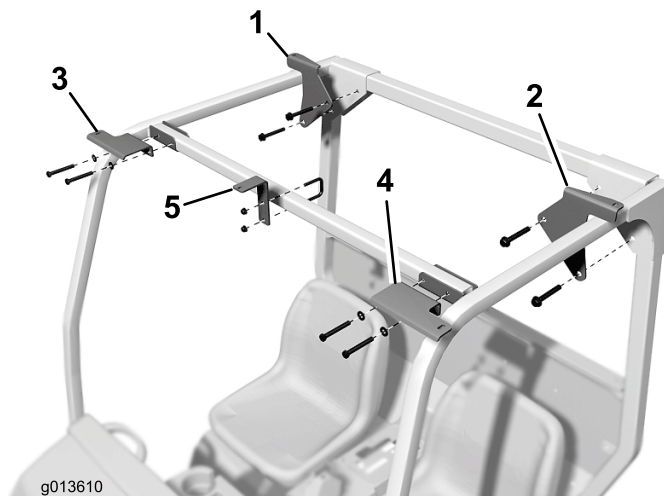

Figure 2
3. Using the bolts and nuts removed, loosely mount the right rear canopy bracket to the right ROPS post (Figure 2).
6. Loosely mount the right front canopy bracket to the right ROPS post and crossbar with new 3/8 x 3-3/4 inch bolts and washers and the existing nuts (Figure 2).
8. Loosely mount the front canopy bracket to the center of the crossbar with the U-bolt and 5/16 inch nuts (Figure 2).